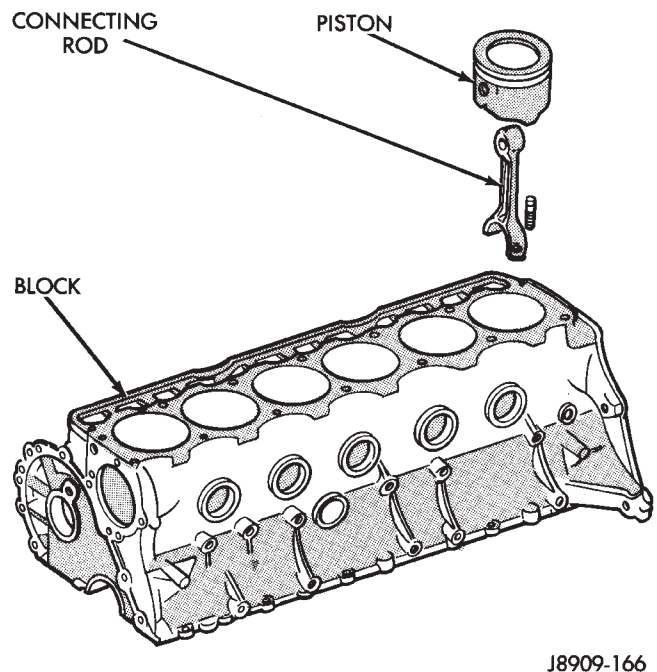

Fig. 2 Removal of Connecting Rod and Piston Assembly
(11) Have an assistant push the piston/connecting rod assemblies up and through the top of the cylinder bores (Fig. 2).